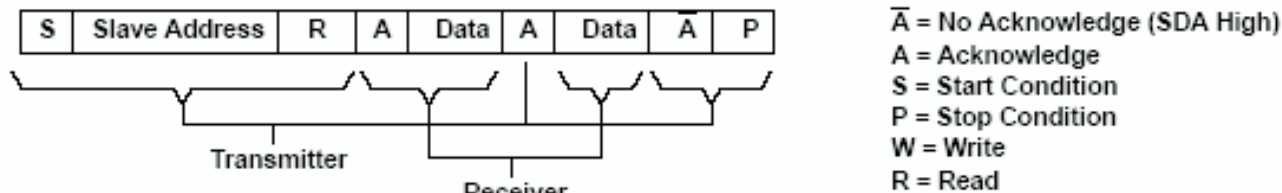
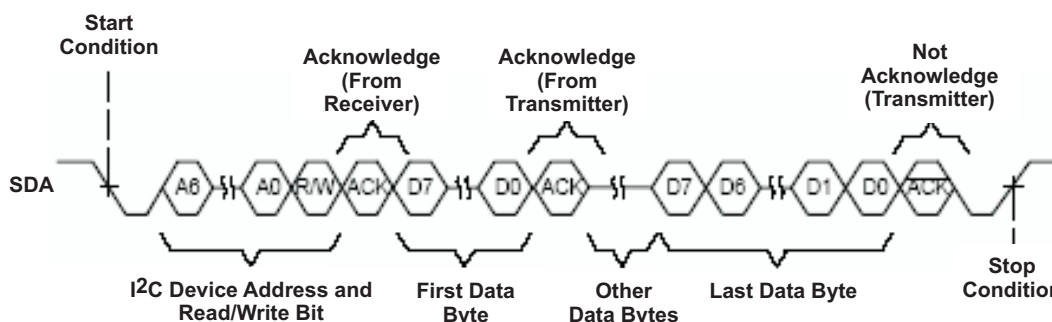

Figure 35. I²C Read Cycle
Figure 36. Multiple Byte Read Transfer
address. Following this initial acknowledge by the slave, the master device becomes a receiver and acknowledges data bytes sent by the slave. When the master has received all of the requested data bytes from the slave, the not acknowledge (A) condition is initiated by the master by keeping the SDA signal high just before it asserts the stop (P) condition. This sequence terminates a read cycle as shown in Figure 35 and Figure 36. See Example – Reading from the SN75DP122 section for more information.
The SN75DP122 operates using a multiple byte transfer protocol similar to Figure 36. The internal memory of the SN75DP122 contains the phrase *DP-HDMI ADAPTOR<EOT>* converted to ASCII characters. The internal memory address registers and the value of each can be found in Table 3.